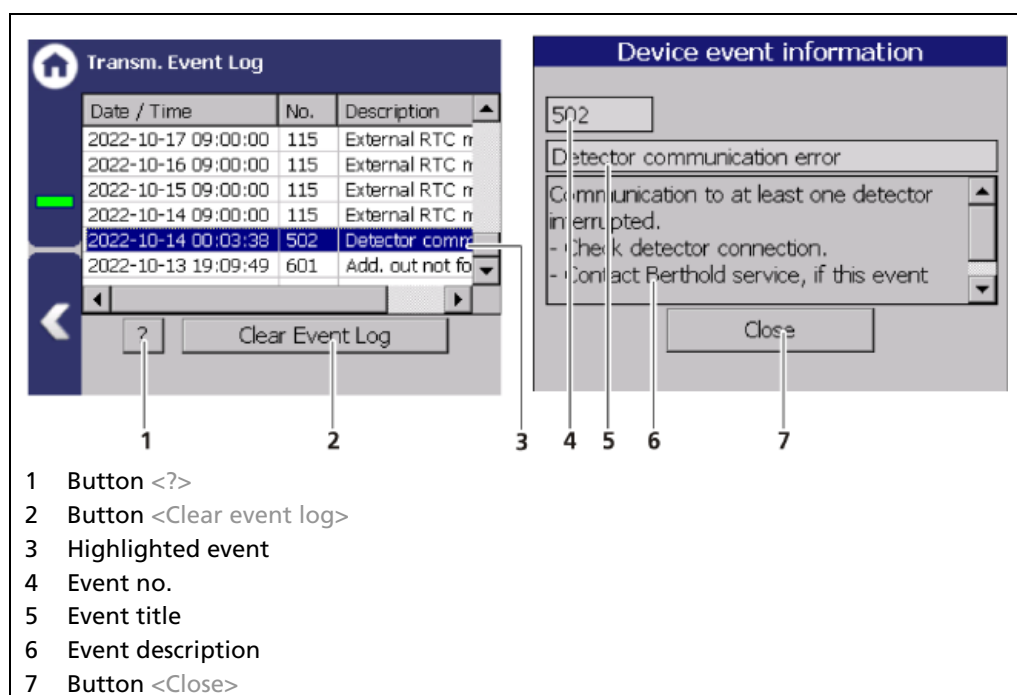

Fig. 125 Display an event log information
1. Click on a line in the list (Fig. 125, item 3).
2. Click on <?> (Fig. 125, item 1).
3. With the button <Close>, close the event description (Fig. 125, item 7).
With the button <Clear event log> (Fig. 125, item 2) all events are deleted irrevocable.